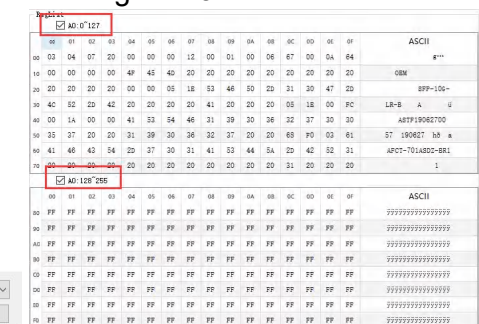

Figure 15
3.1.5 Check the boxes for “A0:0~127” and “A0:128~255” (Figure 15)